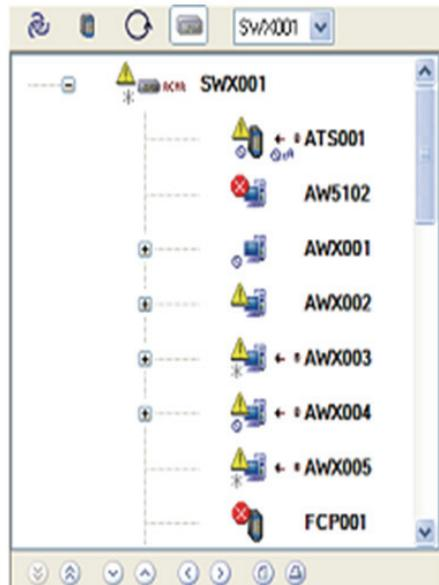

Figure 3. Navigation Pane - LAN Interface (LI) View and Switch View
The LAN Interface (LI) View (Figure 3) displays all configured LAN Interface modules. At the next level, LI view reveals all the stations residing in a particular node. When no LIs are configured on the IA network, the LI button on the navigation tool bar and LI view will be disabled.
The Switch view (Figure 3) shows the selected switch and all the stations and switches connected to it. The next level shows the equipment attached to that station.